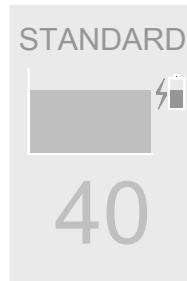

Figure 3
4. When the battery is charging, the display of handpiece will glow showing battery charge sign. Refer to figure 3.